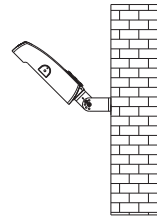

figure 4.4
Step 3: Loosen screw; Adjust the flood to desired position and tighten screws (figure 4.4),